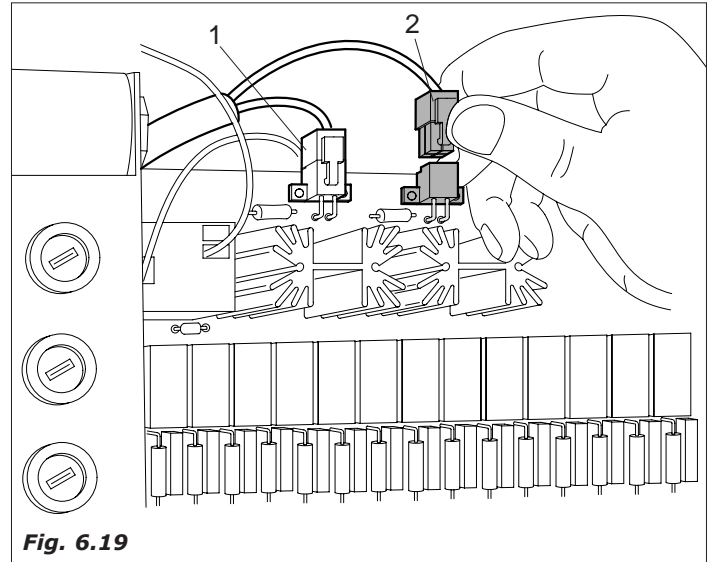

Fig. 6.19
- When these operations have been effected, connect the two resistor connectors (Fig. 6.19-pos.1 soluble - Pos.2 espresso) to the power circuit boards and wait about ten minutes until the operating temperature is reached.